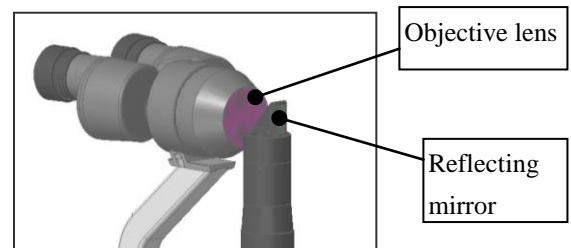

Fig.4.1.1
- ① **Cleaning the lens and reflecting mirror:** If there is any dust on the lenses or reflecting mirror, wipe it off with soft cotton dipped in absolute alcohol (Fig.4.1.1).